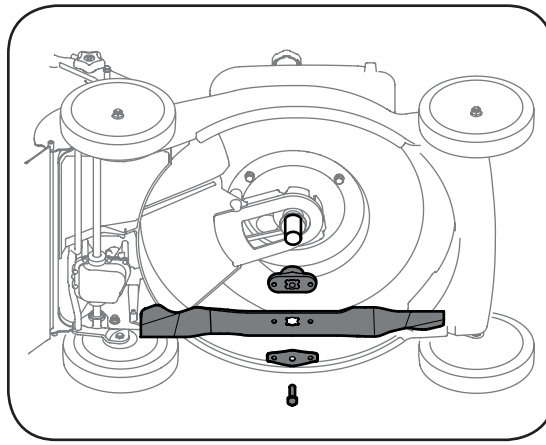

Figure 5-3: Remove the bolt, support, blade, and adapter to access the blade and underside components.
4. Remove blade, blade adapter, and related hardware, Figure 5-3.